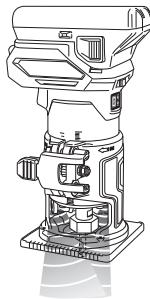

Fig. 31
4. LED light warning signals (Fig. 31)